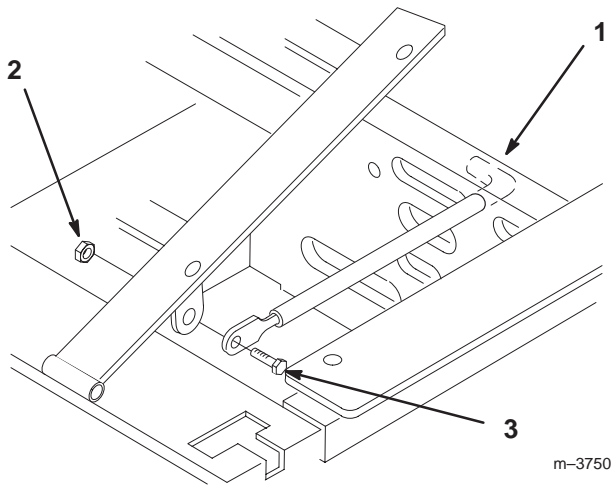

Figure 3
1. Tilt the seat up. Remove the locknut (5/16 in.) from the bolt attaching the seat retaining rod to the seat frame (Fig. 3).
2. Remove the retaining rod from the seat and insert the L shaped end of the rod into the hole directly above the left-side hydraulic pump (Fig. 3).
3. Place the seat retaining rod to the outside of the mounting tab of the seat frame and secure it with the bolt (5/16 x 1 in.) and locknut (5/16 in.) (Fig. 3).